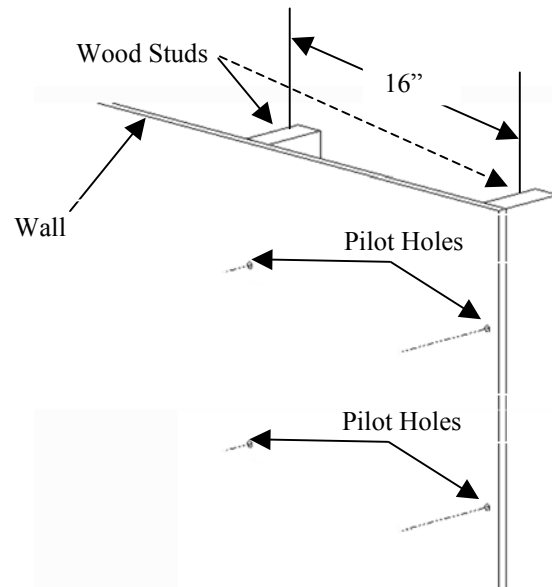

Figure 3. Wood Studs 16" Apart on Center
2. Using a stud sensor, locate two wood studs that are 16" apart on center (see Figure 3).